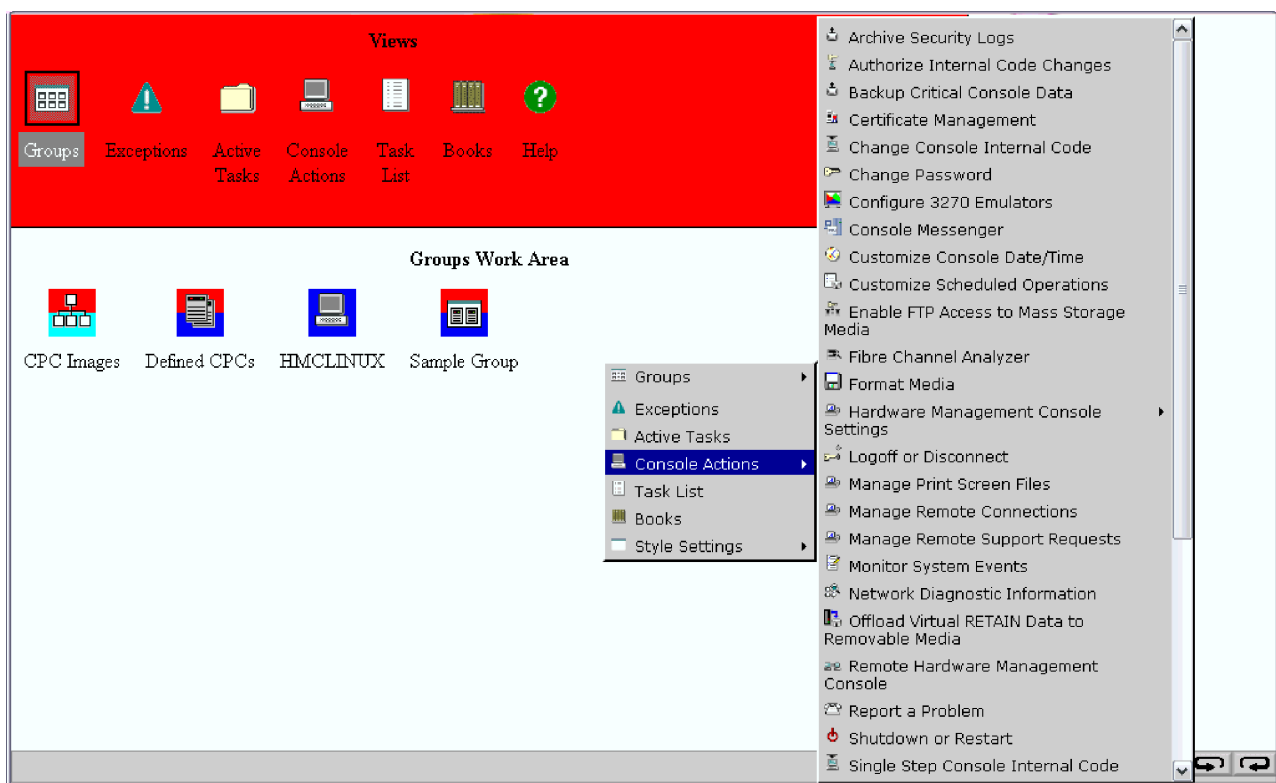

Figure 41. Workplace pop-up menu
1. To open the pop-up menu, click the right mouse button once on any empty area in the *Groups Work Area*. This displays a pop-up menu listing (as shown in Figure 41):